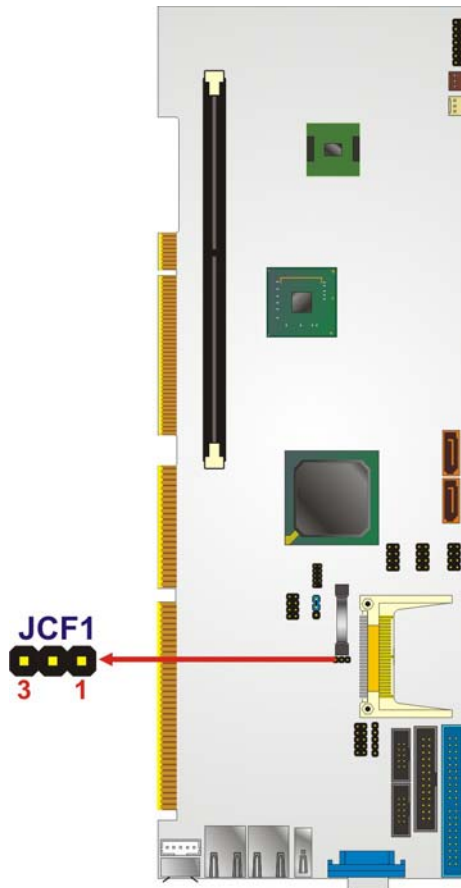

Figure 5-3: CF Card Setup Jumper Location
- Jumper Location:** See Figure 5-3
The CF Card Setup jumper location is shown in Figure 5-3.